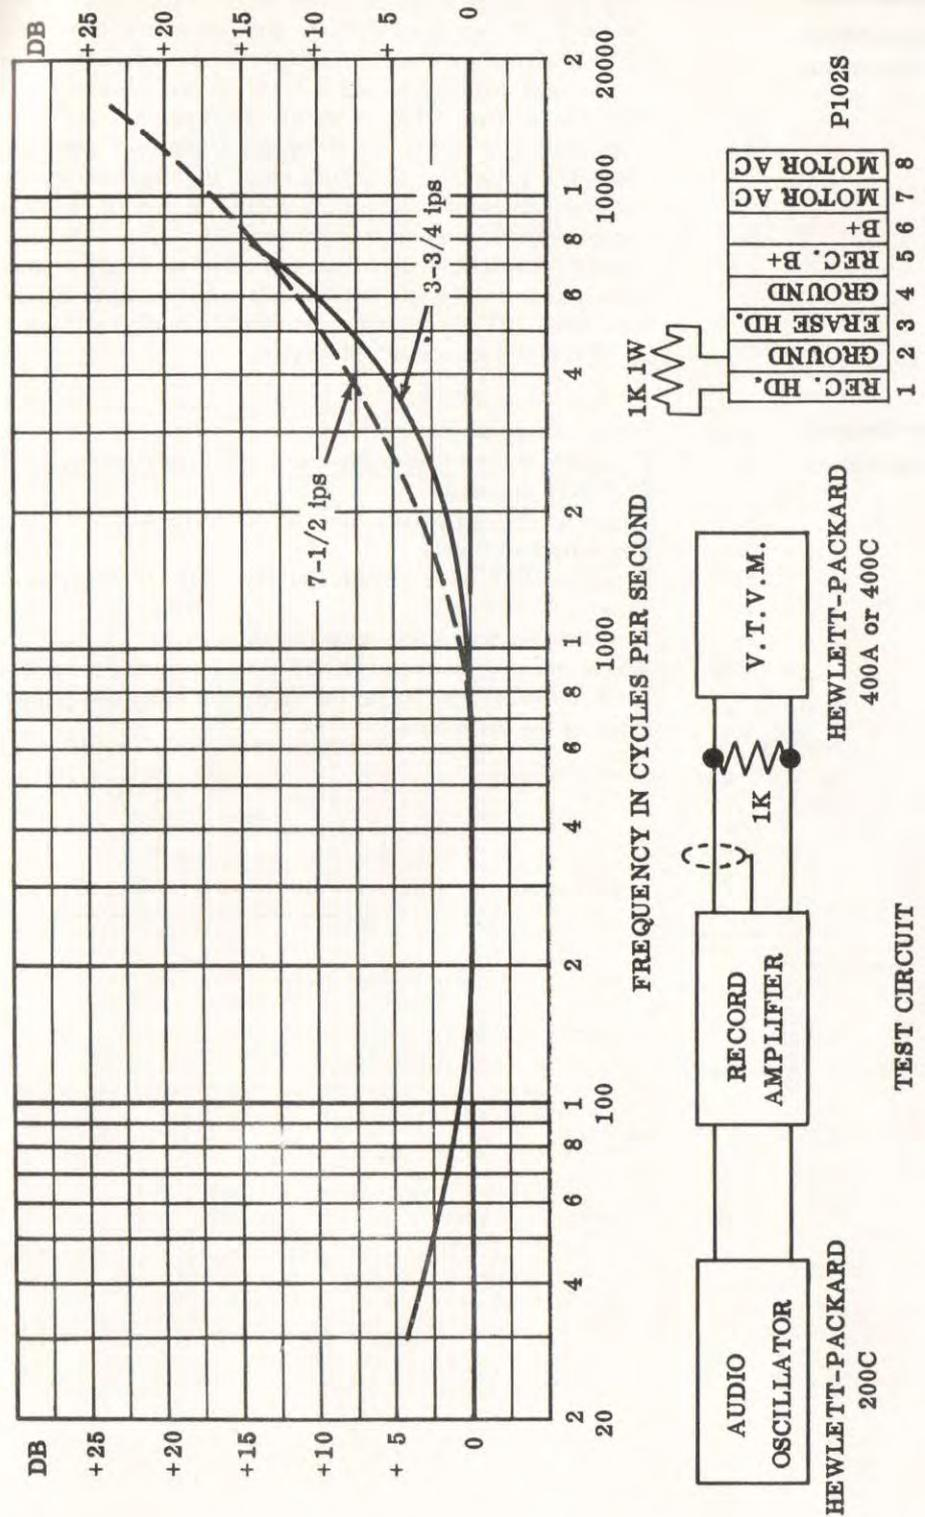

Fig. 5-2. Record Amplifier Response
*Step 2:* The bench procedure for record equalization given in Step 3 below is independent of the reproduce amplifier and is therefore preferred to the procedure outlined in Step 1 above. The record response curve and test setup are shown in Fig. 5.2.
tion. Connect an audio oscillator to the LINE INPUT connector J102S, set it to 250 cps and adjust the LINE REC LEVEL control for a vtm reading of approximately .4 volts. Increase the oscillator setting to 8000 cps and adjust the REC. EQUAL capacitor C107 to set the response on curve at this point as shown in Fig. 5.2. Now sweep the oscillator slowly through the specified frequency range and check to see that response follows the curve throughout. Be sure the oscillator output remains constant over the range.